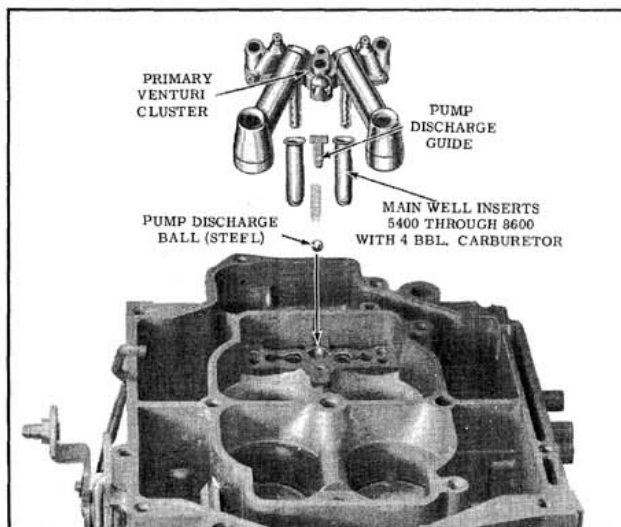

Fig. 4-54 Pump Discharge and Cluster
5. Install the pump outlet steel ball, spring and T-shaped guide in the center hole of primary venturi cluster mounting surface in float bowl. (Fig. 4-54)